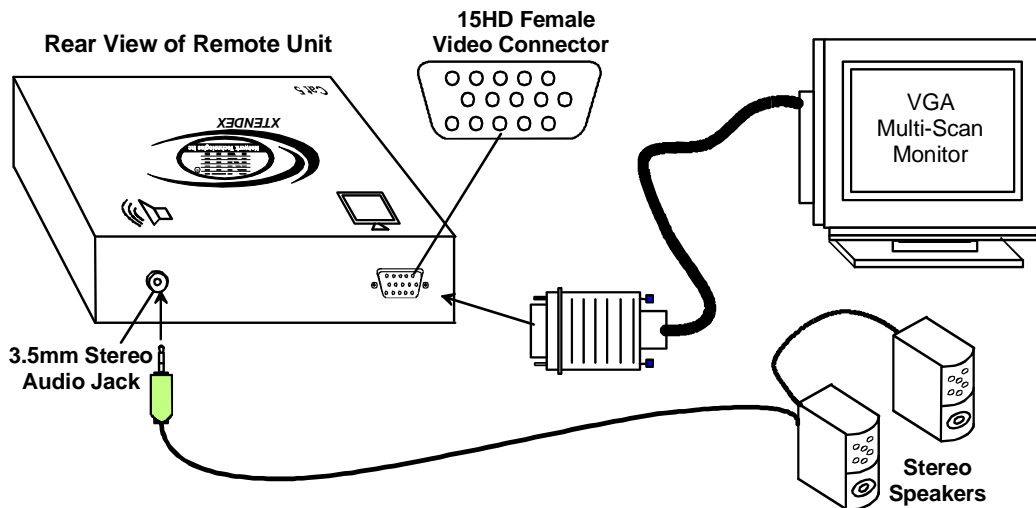

Figure 5- Connect monitor and speakers to the Remote Unit
3. Connect the cable from the remote speakers to the 3.5mm stereo audio jack on the Remote Unit (see Fig. 5).